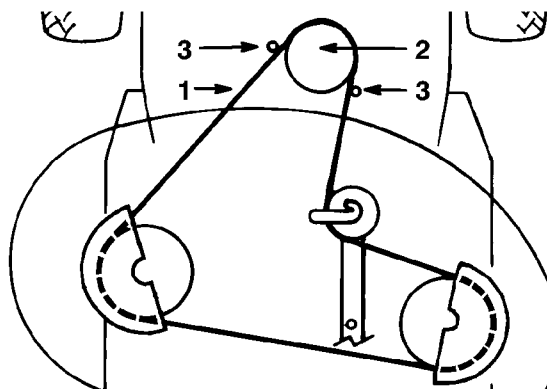

Figure 43
14. Remove the mower belt from the lower engine pulley (Fig. 43). If you are careful, you can flex the belt guide(s) just far enough away from the pulley to remove the belt. If it is too difficult to remove the belt, loosen the bolts and nuts securing the belt guides.
4. Install mower belt onto the lower engine pulley (Fig. 43). If you are careful, you can flex the belt guide(s) just far enough away from the pulley to install the belt. If it is too difficult to install the belt, loosen the bolts and nuts securing the belt guides.